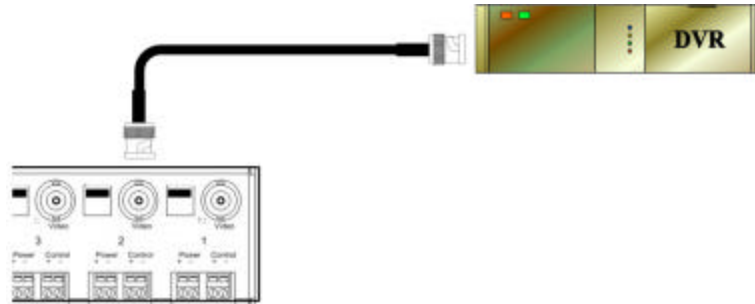

Figure 8: Video connection, Model IC562A
7. Connect one coax cable between each video output port on the rack and the DVR video input (fig 8).